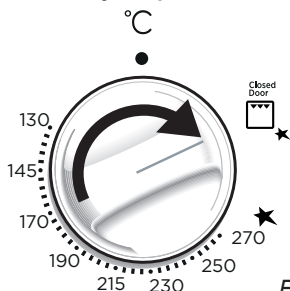

Fig. 2.4
- 2 – Lightly press and turn the thermostat knob clockwise to the position  (fig. 2.4). Press the knob firmly until the burner lights.